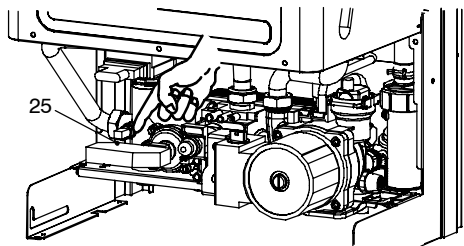

Fig. 8.4
- 11 Disconnect the C.h. temperature probe NTC 25 in Fig. 8.4
- 13 Connect the C.h. temperature probe NTC in Fig. 8.4